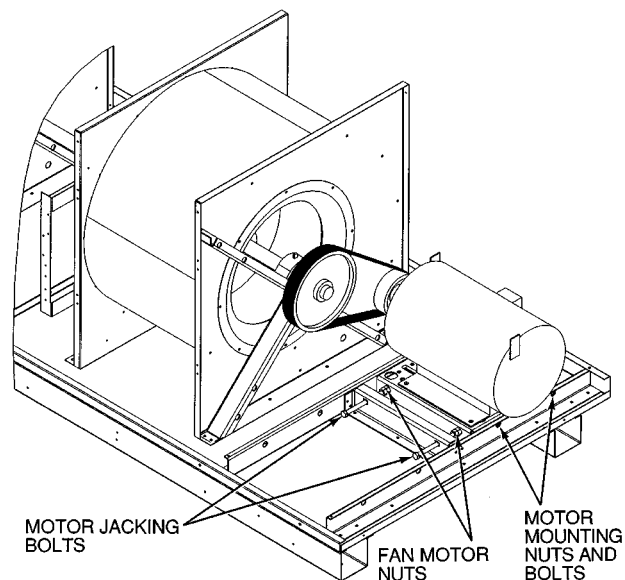

Fig. 39 — Belt Tension Adjustment
3. Loosen fan motor nuts. See Fig. 39.